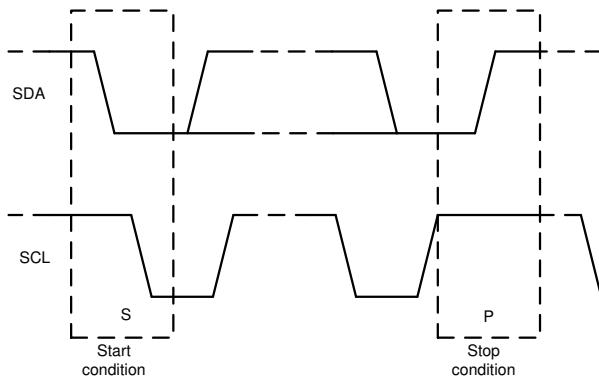

**Figure 7-20. Acknowledge and Not Acknowledge on the I2C Bus**
Other than specific timing signals, the I2C interface works with serial bytes. At the end of each byte, a ninth clock cycle generates and detects an acknowledge signal. An acknowledge is when the SDA line is pulled low during the high period of the ninth clock cycle. A not-acknowledge is when the SDA line is left high during the high period of the ninth clock cycle, as shown in Figure 7-20.
2. The controller then generates the SCL pulses, and transmits the 7-bit address and the read/write direction bit (R/W) on the SDA line. During all transmissions, the controller makes sure that data are valid. A valid data condition requires the SDA line to be stable during the entire high period of the clock pulse, as shown in Figure 7-22. All devices recognize the address sent by the controller and compare the address to the respective internal fixed address. Only the target device with a matching address generates an acknowledge by pulling the SDA line low during the entire high period of the 9th SCL cycle, as shown in Figure 7-20. When the controller detects this acknowledge, the communication link with a target has been established.